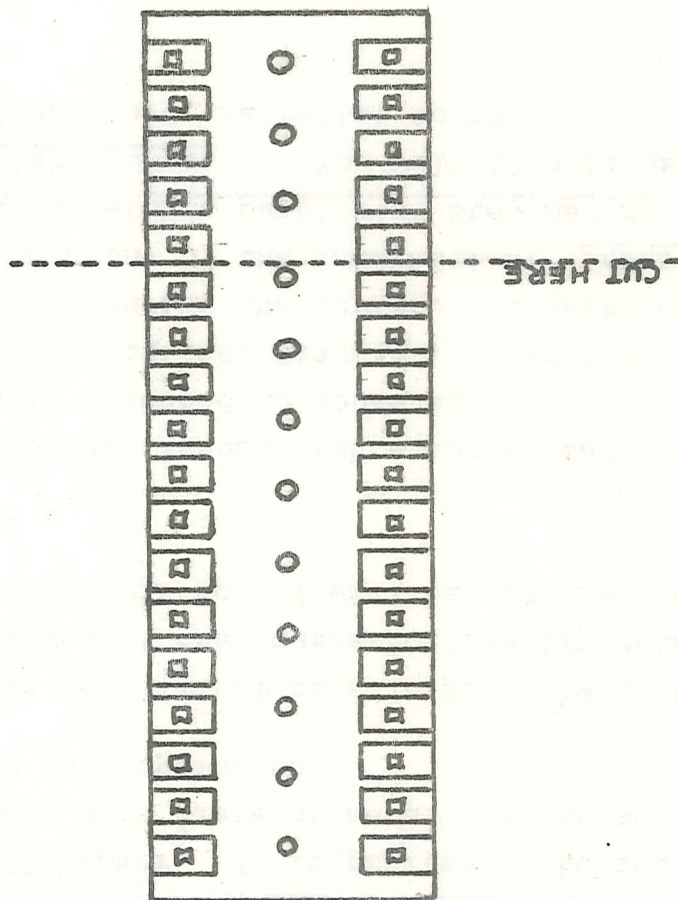

FIG 1. PREPARATION OF TAG STRIPS.
4. Diagrams. Figs. 1, 2 and 3.
### STEP NO. 1 (SEE FIGS. 1, 2 and 3)
Using a fine-tooth saw, cut the 36 way tag strip into two parts to form a 26 way, and a 10 way strip as shown in Fig. 1.